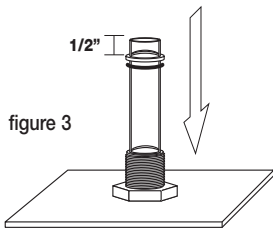

figure 3
3. The **quartz sleeve** resembles a large test tube. Remove the sleeve from the packing and place it into the top of the UV canister and carefully lower it into place. Be sure the **sleeve** is straight and slides fully into the receiving tube at the bottom of the canister. The sleeve will be fitted with a black O-ring and a plastic washer near the top. These should be positioned about 1/2 inch from the top of the tube. All water should be removed from the canister before proceeding with this step (See figure 3).